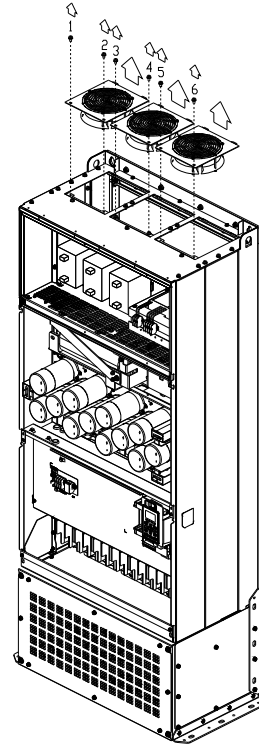

Figure 4
4. Loosen screws 1–6 (as shown below) and remove the fan. Make sure the fan is disconnected when removing. Screw torque: 24–26 kg-cm / [20.8–22.6 lb-in.] / [2.4–2.5 Nm] (figure 4)